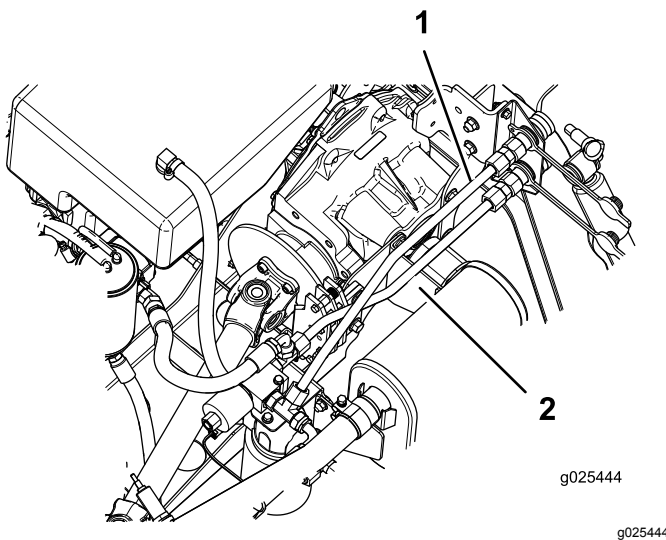

Figure 10
1. Loosely install the bottom hard hydraulic line to the lower quick coupler and rear tee fitting on the manifold (Figure 10).
2. Loosely install the top hard hydraulic line to the upper quick coupler and side tee fitting on the manifold (Figure 10).